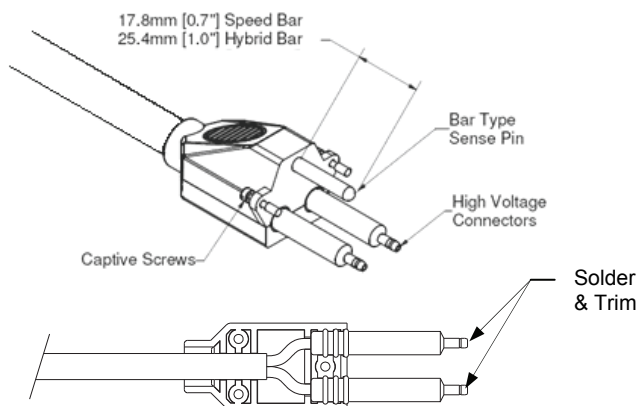

Figure 5.2 High Voltage Cable Terminations
B. **Connect static bar** by cutting the high voltage cable to length, terminating the leads, and connecting to the power supply: (Refer to Figure 5.2)